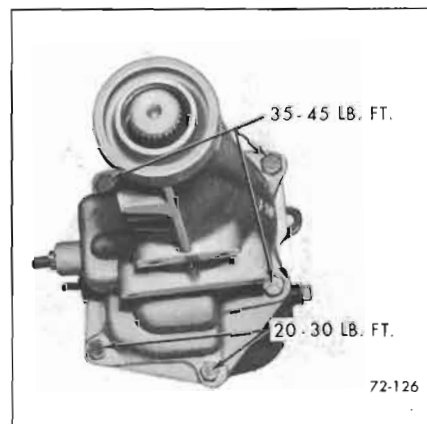

Figure 72-126—Torquing Extension Housing
18. Install three extension to case attaching bolts (torque to 35 to 45 lbs. ft.). Install two short bolts as shown in Figure 72-126.